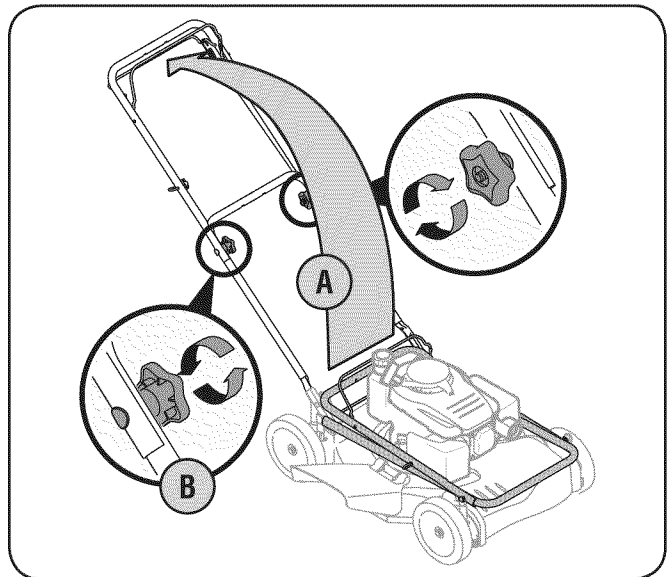

Figure 3-2
- a. Lift the upper handle up from folded position and pull it to extended position following the arrow in Fig. 3-2. The handle should click into this position.